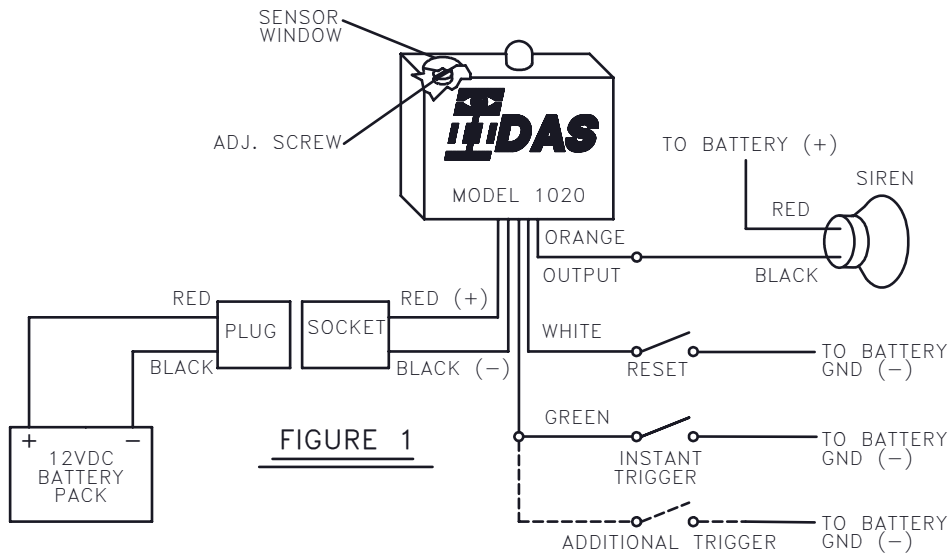
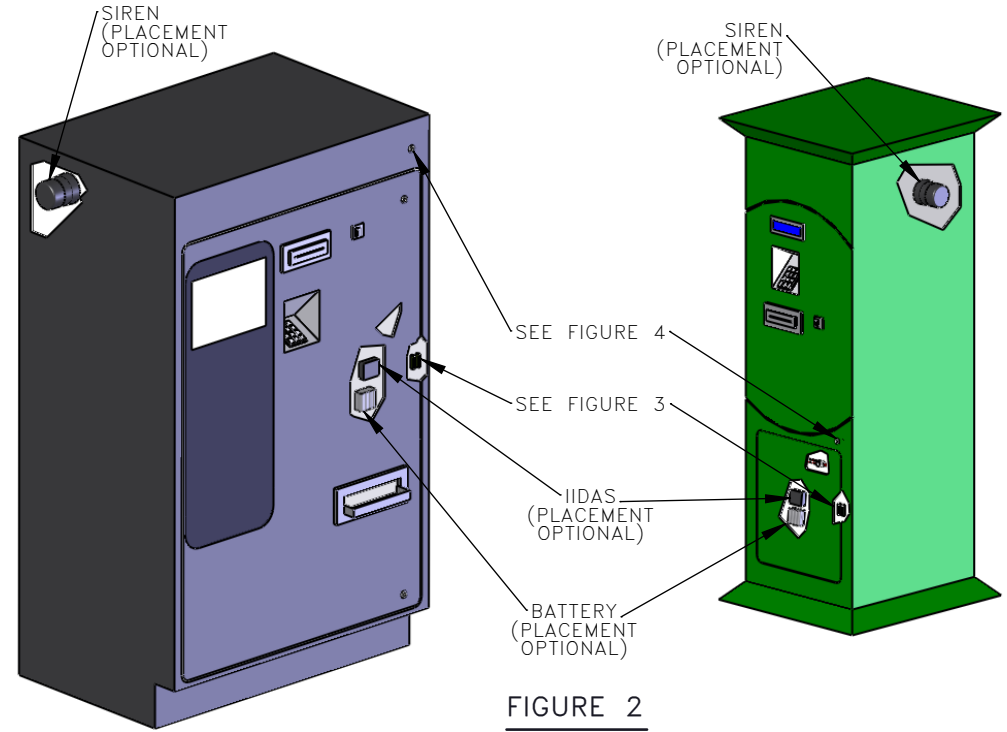

FIGURE 1
FIGURE 2
The *IIDAS®* impact/abuse sensor is designed to detect severe impact, unwarranted abuse, or abrupt rocking. After installation, if it is necessary to adjust the impact sensitivity, remove the sensor window (see Fig. 1) from the *IIDAS®* Controller, and with a small flat-head screwdriver simply turn the screw, in one-half turn steps, clockwise to increase the impact sensitivity and counter-clockwise to decrease the impact sensitivity. Whenever the impact/abuse sensor is triggered *IIDAS®* will instantly alarm for approximately 30 seconds and then reset automatically. The alarm output may be shortened or lengthened at BRW's factory. Whenever *IIDAS®* is triggered again, during an alarm cycle, it will restart its 30 second alarm output. Whenever *IIDAS®* is triggered by a door being illicitly opened it will instantly alarm for approximately 30 seconds and then reset automatically.
***IIDAS®* CONTROLLER:** Remove the two-sided tape backing from the *IIDAS®* Controller and attach it to a clean surface on the inside the ticket machine with the *IIDAS®* LED facing upwards (see Fig. 2). For best performance attach near the lock assembly.
SIREN: Remove the two-sided tape backing from the siren and attach to a clean surface on the inside of the ticket machine (see Fig. 2). Use the siren's mounting bracket if possible.
RESET SWITCH (System 107DA): The magnetic contact assembly is used to disarm *IIDAS®* when the service door is opened. Remove the two-sided tape backing and locate a space on the inside of the ticket machine's door and attach the switch portion; then attach the magnet portion inside the ticket machine, on the door's frame, parallel to the switch. The maximum gap between the switch and the magnet should be no more than ½ inch. Use the spacer or the plastic "L" bracket if necessary. Check installation with a meter to insure proper alignment (Door Open = closed, Door Closed = open). (See Fig. 2).
WHITE WIRE (Reset): For *System 107DA*, attach the white wire on the *IIDAS®* Controller to either one of the wires on the switch portion of the magnetic contact assembly. Attach the other wire of the switch portion to the black wire (-) on the battery (see Fig. 2 & 3). For *System 107KA*, attach the white wire on the *IIDAS®* Controller to the white wire on the key lock, then attach the black wire on the key lock to the black wire (-) on the battery (see Fig. 1 & 4).
ORANGE WIRE (Alarm Output): Attach the orange wire of the *IIDAS®* Controller to the black wire on the siren. Then attach the red wire on the siren to the red wire on the battery (see Fig. 1).